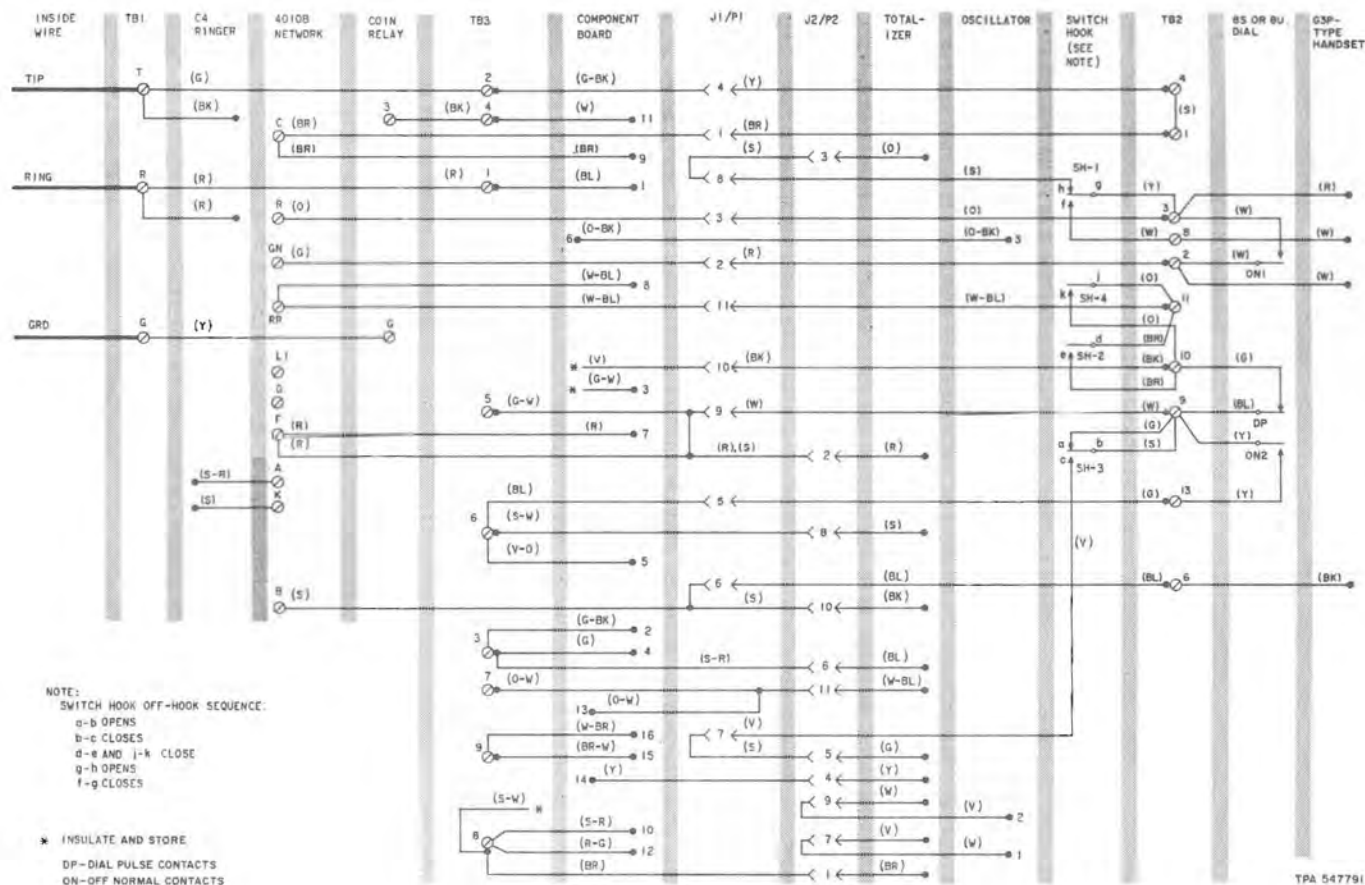

Fig. 35—1C1 or 2C1 Coin Telephone Set—DTF Connections
5.01 Refer to Fig. 35 through 38 for connecting diagrams.